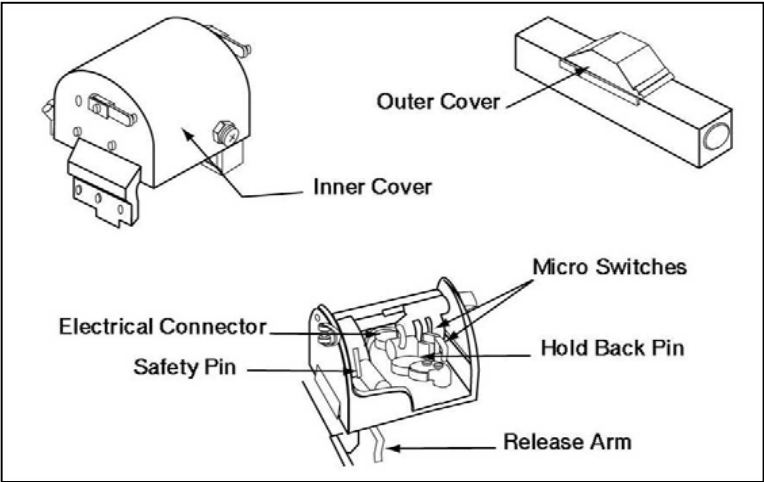

Figure 4-1-8: Arming Mechanisms
28. **Arming Mechanism.** The arming mechanisms (see Figure 4-1-8) are bolted at the top of the left and right hand launchers and contain the mechanism and switches needed to arm the missile and cut the guidance wires after missile launch. The arming mechanism consists of an outer cover, which provides light armoured protection to the mechanism. Under an inner cover there are two microswitches. The front microswitch controls wire cutting after the missile has been launched. The rear microswitch controls the arming of the missile. The electrical connector and the hold back pin are the same as on the basic TOW 2. The safety pin is a device, which works in conjunction with the release arm and guide lever. The safety pin prevents the missile from being armed unless the guide lever is fully seated forward and locked in position. The electrical cable carries all electrical signals to and from the missile.